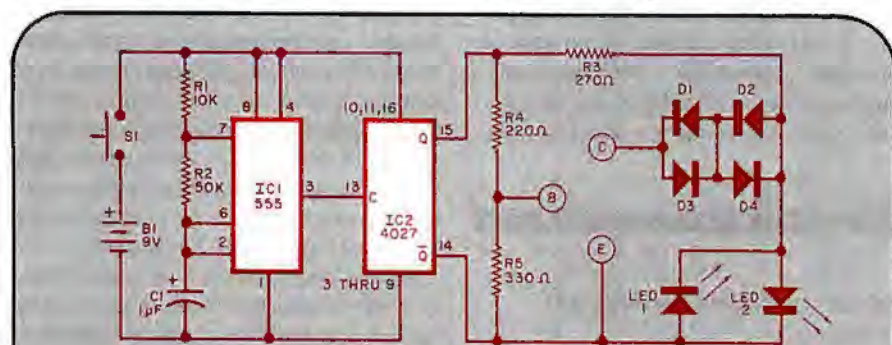

Fig. 1. As shown above, circuit is based on 555 timer operating as a 12-Hz multivibrator.
Circuit Operation. The circuit, shown in Fig. 1, is based on a 555 (*IC1*) timer operating as a 12-Hz multivibrator. The output at pin 3 drives one flip-flop of *IC2*. This flip-flop divides the input frequency by two, but more important, delivers complementary voltage outputs at pins 15 (Q) and 14 (not-Q).